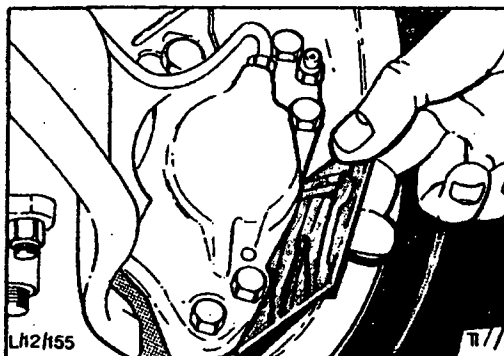

Fig. 15. Checking brake pad wear.
1. From underneath the vehicle visually inspect brake pads for signs of wear using a suitable mirror, Fig. 15. If thickness is less than 1,5 mm (0,060 in.), renew pads. Refer to Operation 12 233.